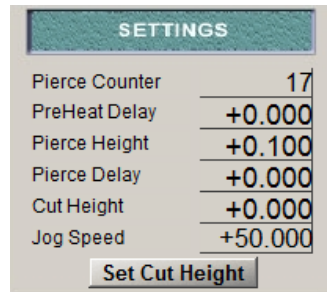

Figure 12 - Oxy Fuel Operating Settings
The pierce counter records the number of pierces the controller performs. It can be zeroed out by the operator at any time. It does not control anything it is simply a reference. See Figure 12.
2. Enter that value into the Cut Height field. See Figure 12.